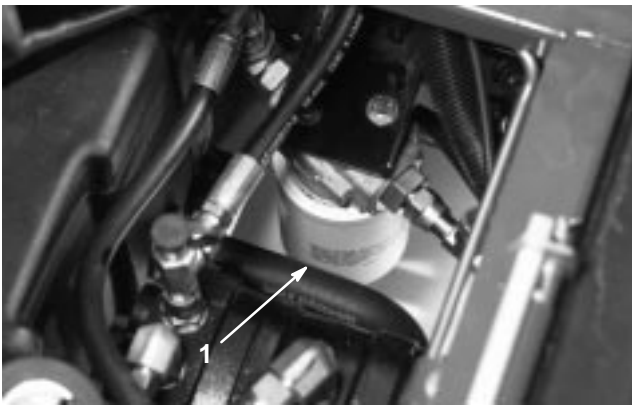

Figure 58
2. Clean the area around the filter mounting area. Place a drain pan under the filter and remove the filter (Fig. 58).